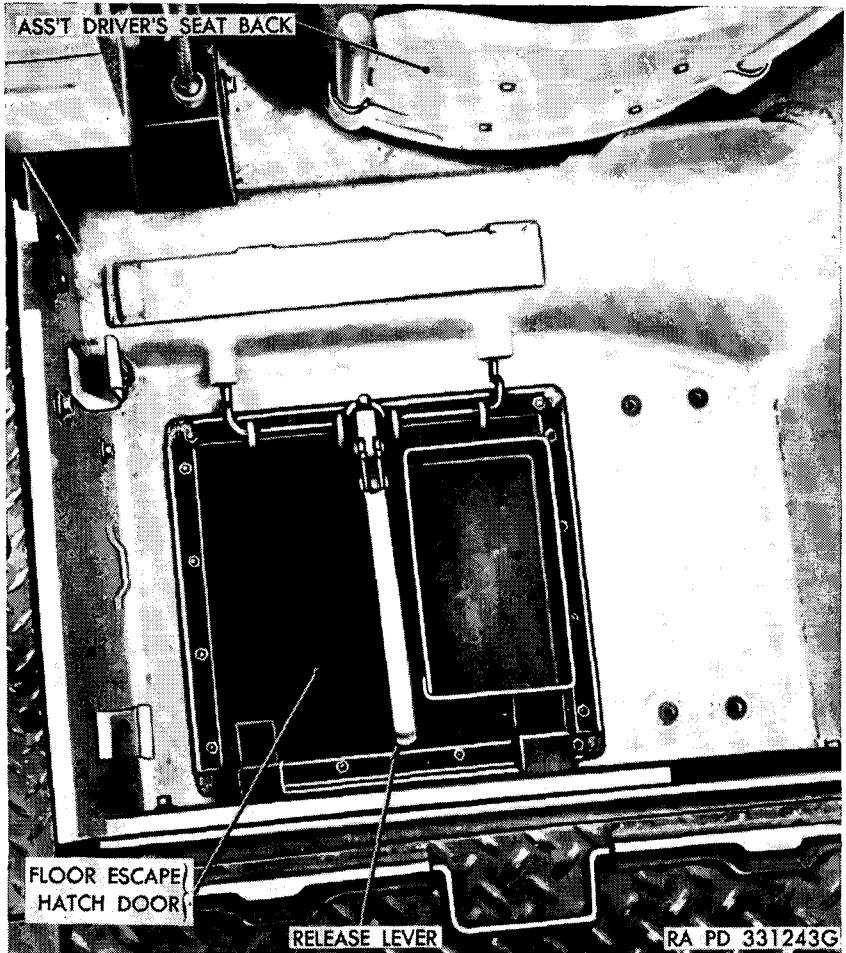

Figure 13. Escape door.
a. OPENING. Remove subfloor over escape hatch by releasing subfloor lock located under floor at front. Subfloor section can then be slid forward and removed. Raise release lever on escape door (fig. 13) and let entire door (and 75-mm gun spare parts box) drop to the ground.